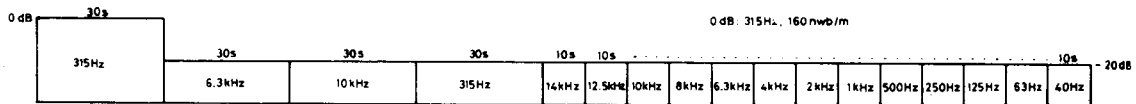

Fig. 10-4 Contents of the test tape STD-331B
- STD-331B : Playback adjustments (See Fig. 10-4)